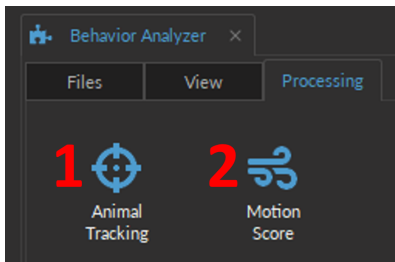

Figure 15.6: Behavior Analyzer, Processing tab
The **Processing** tab (Fig. 15.6) includes two behavior measurements, which will be treated in the following sections:
- *Animal Tracking* (Fig. 15.6, 1) - Section 15.3.1
- Motion Score (Fig. 15.6, 2) - Section 15.3.2